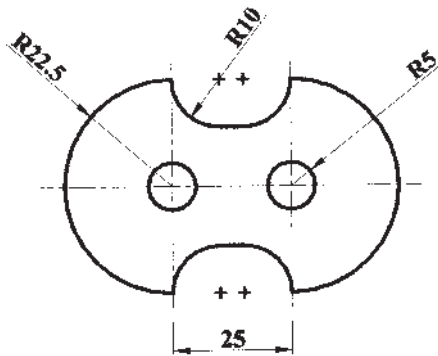

Fig: 2
2. Design a progressive die for the component shown in Figure 2.